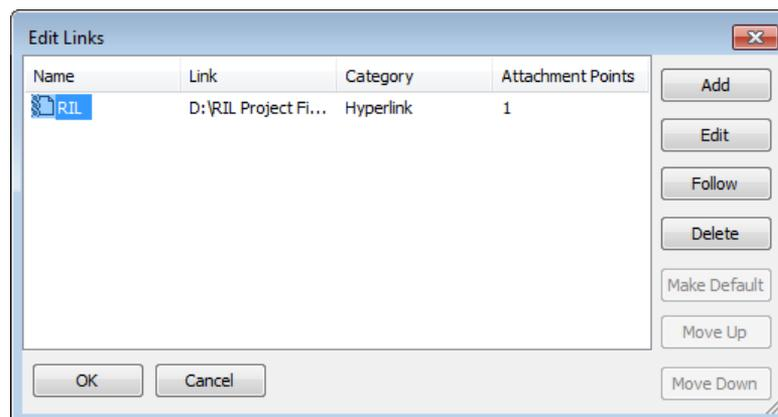

Figure 3-29 The Edit Links dialog box
In Navisworks, you can edit, reset, and delete all the links except those which are automatically generated such as links which points to the clash results, viewpoints, TimeLiner tasks, and so on. To edit a link, right-click on the required link; a shortcut menu will be displayed. Choose the **Edit Link** option from the menu; the **Edit Links** dialog box will be displayed, as shown in Figure 3-29.
Similarly, to delete a link, select the required link from the **Edit Links** dialog box, refer to Figure 3-29. Choose the **Delete** button and then the **OK** button; the link will be deleted. To reset all links for an object, select the required object. Next, choose the **Reset Links** tool from the **Links** panel in the **Item Tools** contextual tab; all links will be readjusted to their original state. Similarly, you can reset all links in the Scene View to their original state. To do so, select the **Links** option from the **Reset All** drop-down list in the **Project** panel of the **Home** tab; all links will be readjusted.
*Alternatively, select the required object in the Scene View; the **Item Tools** contextual tab will be displayed. Next, choose the **Edit Links** tool from the **Links** panel of the **Item Tools** tab; the **Edit Links** dialog box will be displayed, refer to Figure 3-29.*